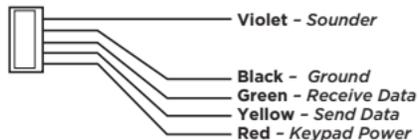

Figure 2: Wiring Harness
1. Feed the panel keypad bus wiring through the opening in the back of the base. Mount the base in the desired location using the mounting holes. Seal the wiring opening with a weatherproof sealant. See Figure 2.